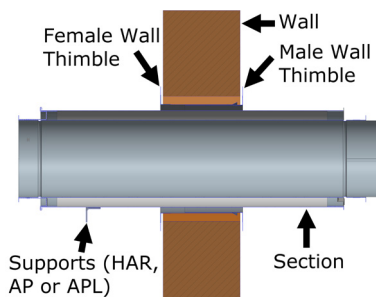

Figure 116: Supports for Chimney passing through a Wall
Chimney that penetrate wall have to be supported at least on one side of the wall, supporting the section that penetrates through the wall. It can either be supported by bracing a Half angle Ring (HAR), Anchor Plate (AP), or Anchor Plate Length (APL) See Figure 116